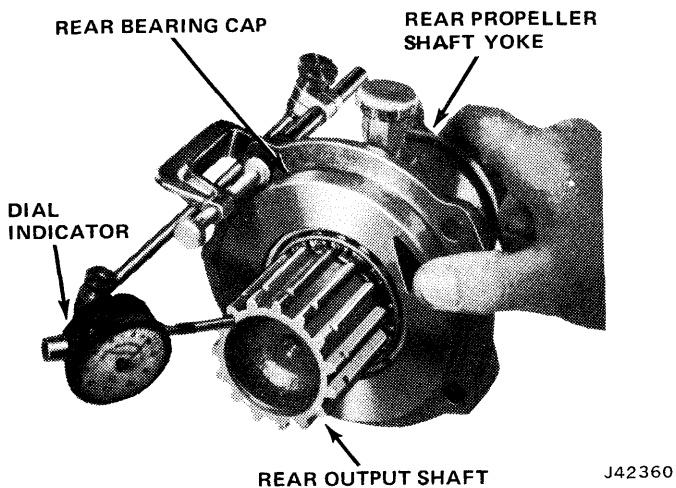

Fig. 8-11 Checking Rear Bearing Cap End Play
(1) If removed, install speedometer driven gear bushing using Bushing Installer Tool J-25169.
(2) Install front bearing cup in bore.
(3) Install front bearing on shaft.
(4) Install rear bearing cup in bore.
(5) Install speedometer drive gear and shims on shaft.
(6) Place output shaft in bearing cap and place end of output shaft on firm surface.
(7) Place rear cone and roller on output shaft and drive bearing onto shaft and seat it against shims.
(8) Install yoke seal with Tool J-25132.
(9) Install yoke, flat washer, and nut. Tighten nut to 240 foot-pounds torque. Use Tool J-8614-01 to hold yoke while tightening nut.
(10) Clamp dial indicator onto bearing cap and position indicator against output shaft as shown in figure 8-11.
(11) Pry output shaft back and forth to check end play. End play should be 0.001 to 0.003 inch.
(12) If end play is excessive, it can be corrected by installing shims between speedometer drive gear and output shaft front bearing.
(13) Place speedometer driven gear in bearing cap and install driven gear sleeve.